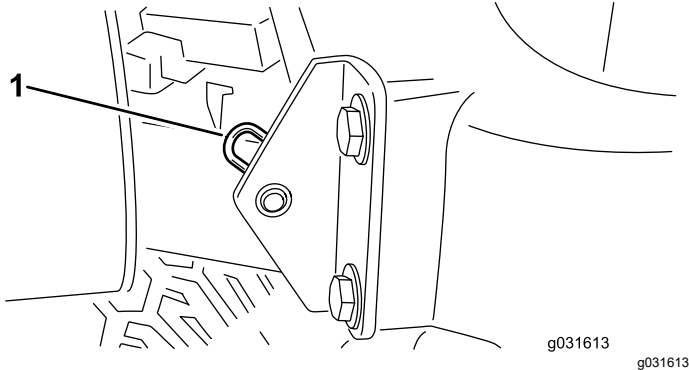

Figure 38
2. Remove the hairpin cotter securing the hood pivot to the mounting brackets (Figure 38).